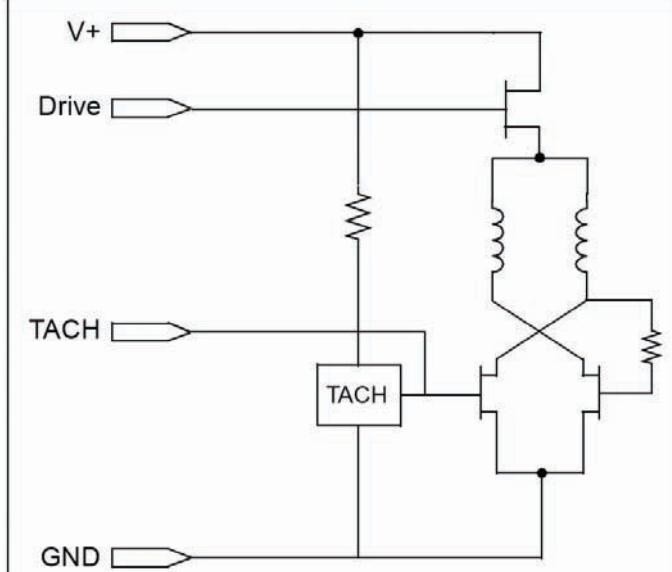

Figure 5: Typical 4-wire fan
**Figure 5** shows a diagram of a 4-wire fan.